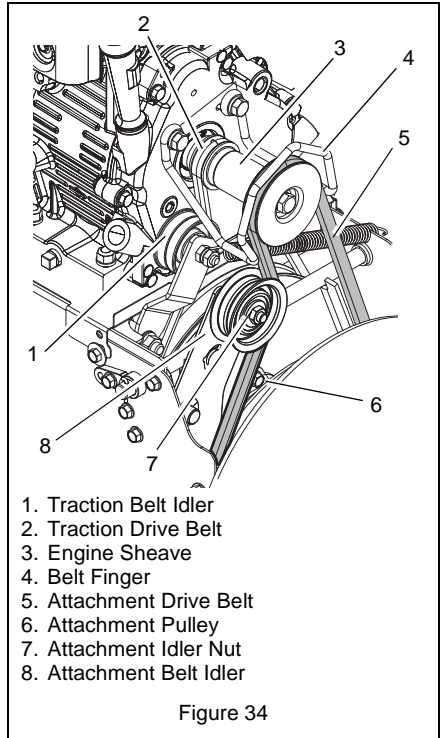

Figure 34
7. Remove belt finger by removing cap screws mounting belt finger to engine (Figure 34).
1. Place new belt onto attachment pulley (Figure 34).